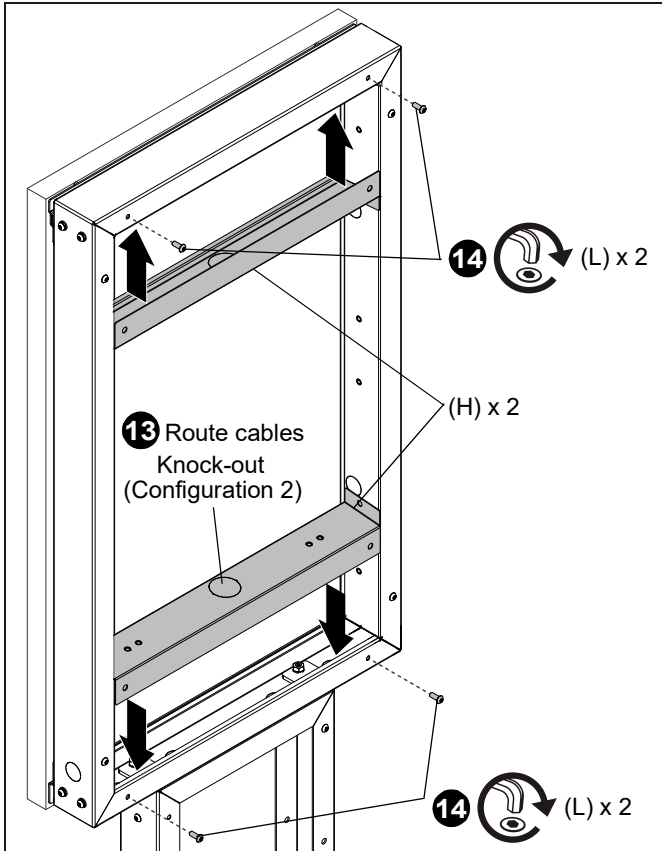

Figure 20
13. Route all cables through grommets in horizontal covers (H) down into the top of the base.
14. Install two horizontal covers (H) to the top and bottom of the frame(s) using four M8 x 20mm security screws (L). (See Figure 20)